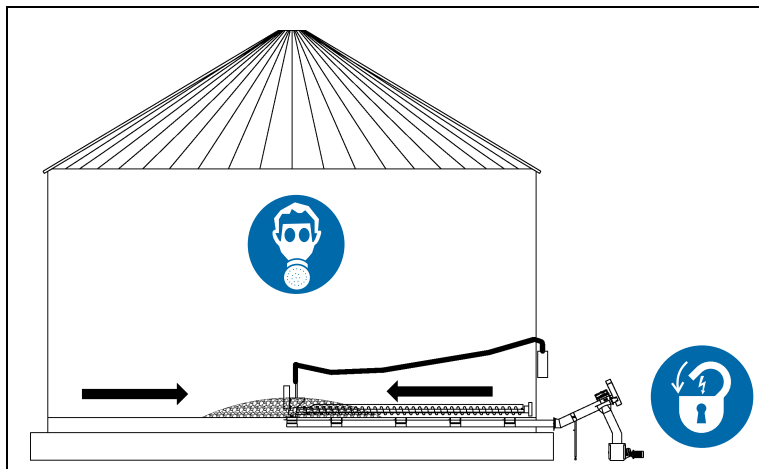

Figure 6M
13. Brush remaining grain to centre. (See Figure 6M.)